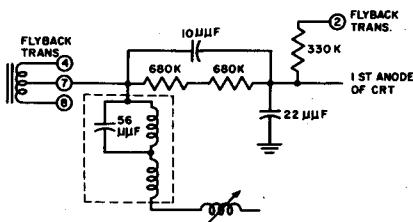

Fig. 22 — CBS-Columbia
**Eliminating ringing and vertical shading (see Fig. 22).**